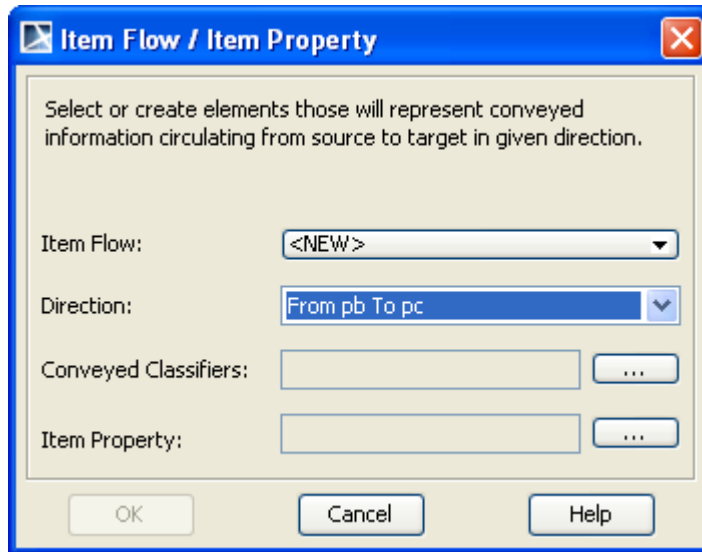

Figure 108 -- Item Flow / Item Property Dialog
2. The **Item Flow / Item Property** dialog will then open (Figure 108).